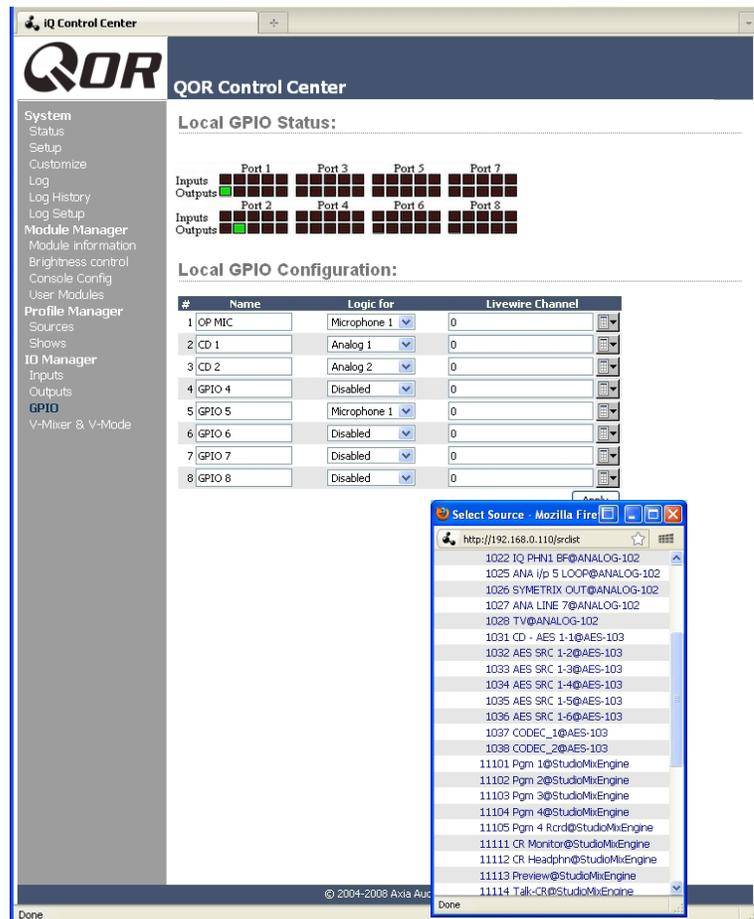

Figure 2-8: GPIO Configuration
5. Now point your browser to the **GPIO Configuration** screen (Figure 2-8). You may also use a GPIO Node in lieu of Radius' built-in GPIO ports; just point your browser to that Node's IP address instead.
6. The GPIO setup screen uses the same method of assigning devices to ports as other Livewire devices. Pick a port to map your Phone channel's contact closures to, using the list tool, and click **Apply**. Figure 2-8 shows the GPIO section of a Radius (Axia Element consoles and GPIO nodes are similar, and also have eight GPIO ports.)